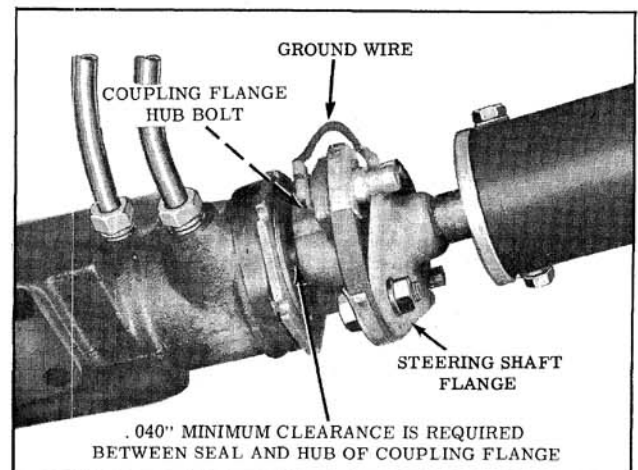

Fig. 8-39 Flex-Coupling
1. Remove the coupling flange hub bolt. (Fig. 8-39)